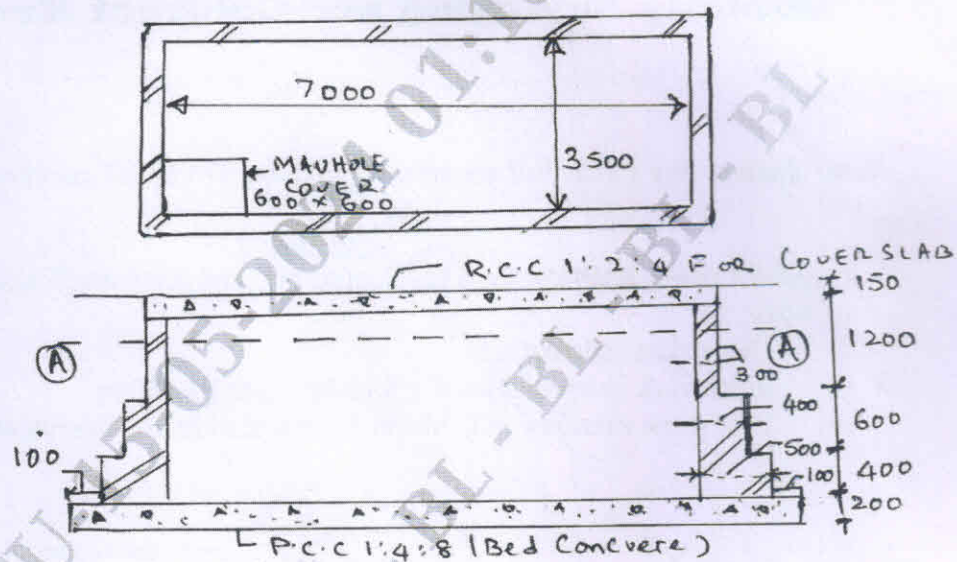

Fig.Q.3: Sketch of septic tank-plan and elevation.
- 3 The details of septic tank is given in Fig.Q.3. Find its quantities of the following items: